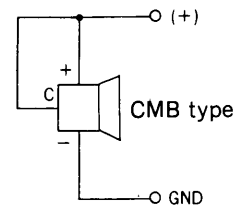

Fig.11
In case it is unnecessary to control the activation of buzzer through (C) terminal, the buzzer may be used as an ordinary two-terminal buzzer with such (C) terminal directly connected to (+) as shown in Fig. 11.